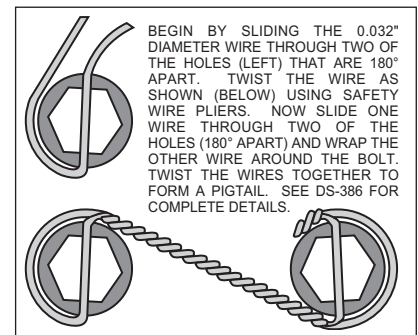

Figure 4. Safety Wire Diagram
- The caliper mount bracket assembly (1) should be installed first with clean, dry threads on the mounting bolts. Install the bracket on the outboard side of the spindle by sliding the original OEM bolt through the OEM mounting ear bolt hole from the backside, through washer (2) and into the bracket (1). The bracket must tighten squarely against the outboard side of the caliper mount bosses on the spindle. Inspect for interference from casting irregularities, machining ridges, burrs, etc. Use one thin shim (2) between the bracket and spindle during initial trial fitting.
- With the larger I.D. side of the rotor (3) facing away from the hat (4), bolt rotor (3) to hat (4) through the backside of the rotor using washers (5) and bolts (6). Using an alternating sequence, apply red *Loctite*® 271 to the threads and torque bolts to 140 **in-lb**. For an added measure of security, the bolts may be safety wired using standard 0.032 inch diameter stainless steel safety wire as shown in Figure 4. Please refer to Wilwood's data sheet DS-386 for complete safety wire